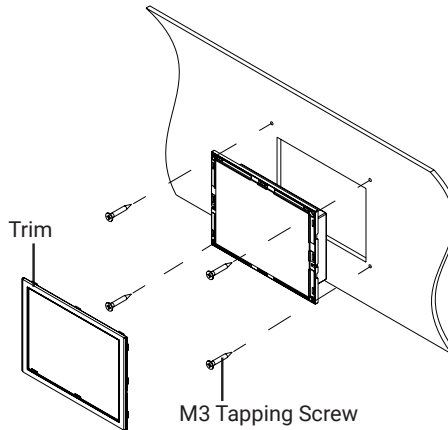

Figure 3-2
3. Fix the display panel to the boat referring to the figure 3-2.